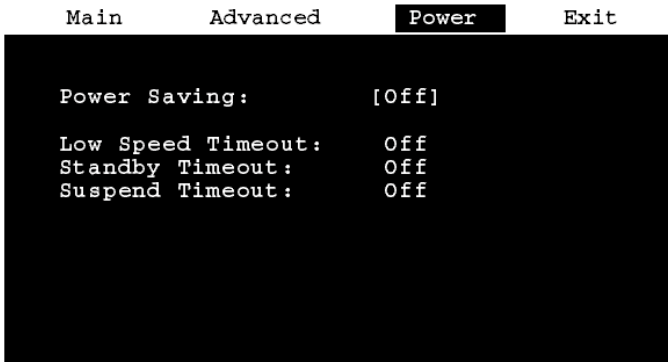

Figure 4-3: BIOS Power Menu Screen
7. Pressing the Right Arrow key <▶> twice from the Main Menu screen displays the Power Menu (see Figure 4-3). For additional information on the Power Menu options refer to the Power Management section of this manual.